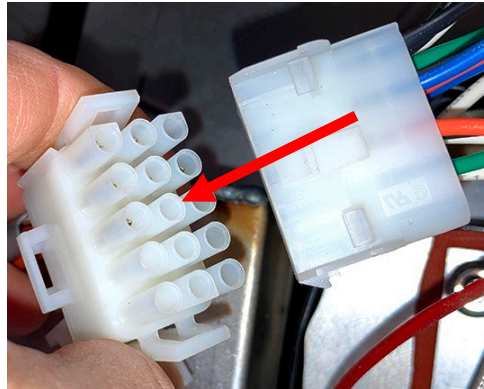

Figure 8
10. Disconnect the 15-pin filter harness behind the far-left control box (see Figure 8).